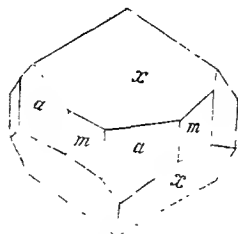

Figure 174. Phenacite, a Common Form at Mount Antero, Colorado
**Phenacite** is a beryllium silicate,  $\text{Be}_2\text{SiO}_4$ , containing 45.55% of beryllium oxide. It has a *hardness* of 7.5 to 8, equal to that of beryl; *specific gravity*: 3. It is *colorless* and often *transparent*, in which case it yields gems of considerable beauty, the finest coming from the Urals. The *crystals* belong to the rhombohedral division of the hexagonal system and are often lenticular in shape. The most prolific American localities are in Colorado, figure 174, but the crystals are small compared with those of the Urals and Norway.